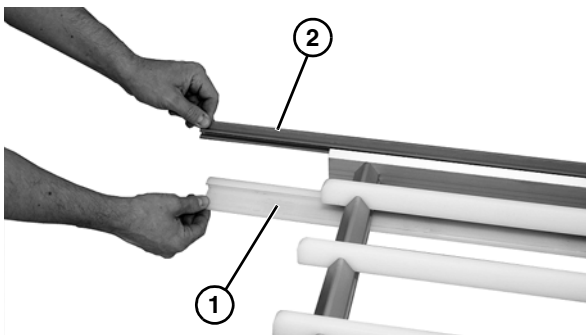

Figure 30
2. Slide lower wear strips (**Figure 30, item 1**), and side wear strips (**Figure 30, item 2**) from frame assembly.